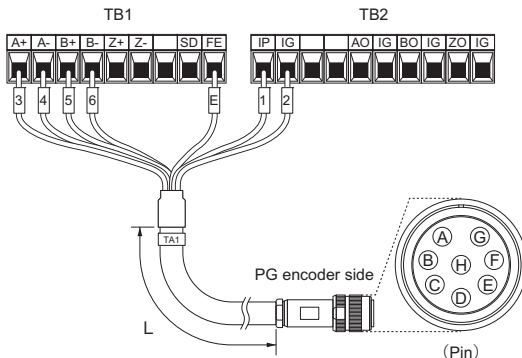

Figure 9 Wiring PG Encoder Cable
- Wire the motor PG encoder to the terminal block on the option. Refer to Figure 8 and Figure 9 for wiring instructions. Refer to Option Terminal Functions on page 25 for a detailed description of the option terminal functions.
Yaskawa recommends using a LMA-□□B-S185Y (complementary output) for cables running between the option and the PG as show in *Figure 9*.